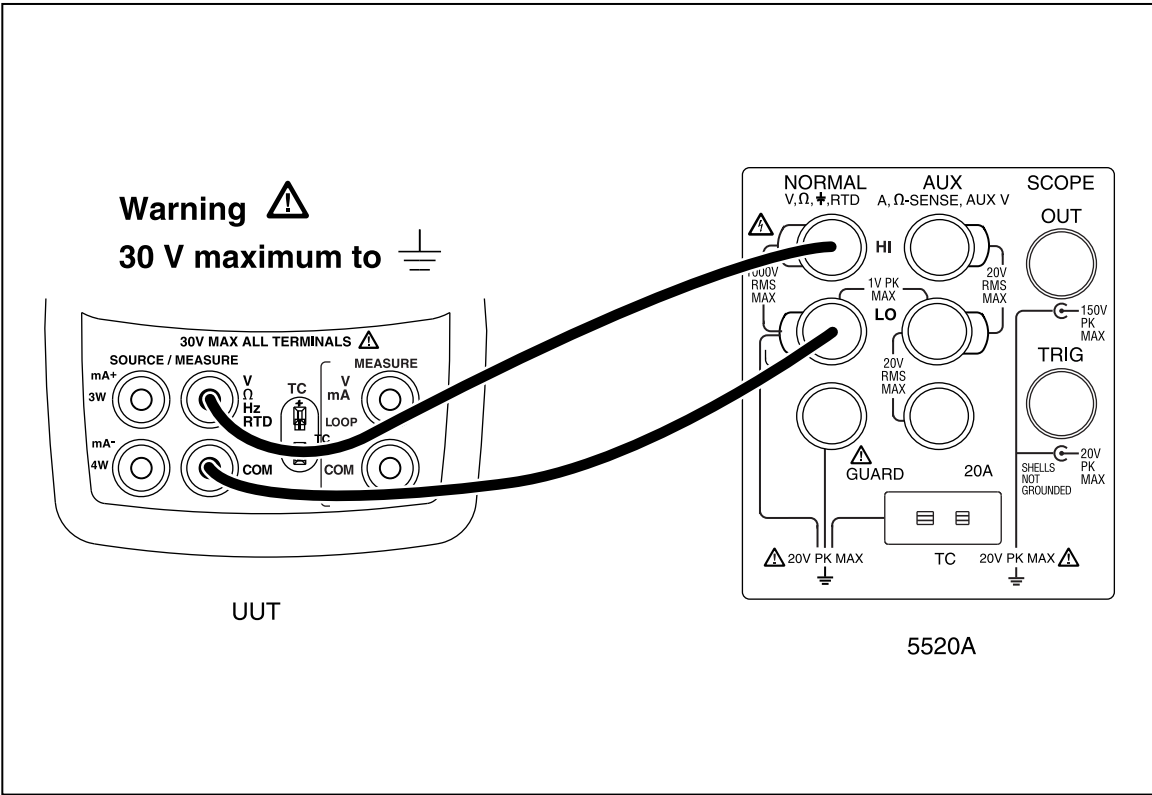

Figure 3. Lower Display mV and Voltage Test Connections
- 3. Make the connections shown in Figure 3.
3. Make the connections shown in Figure 3.